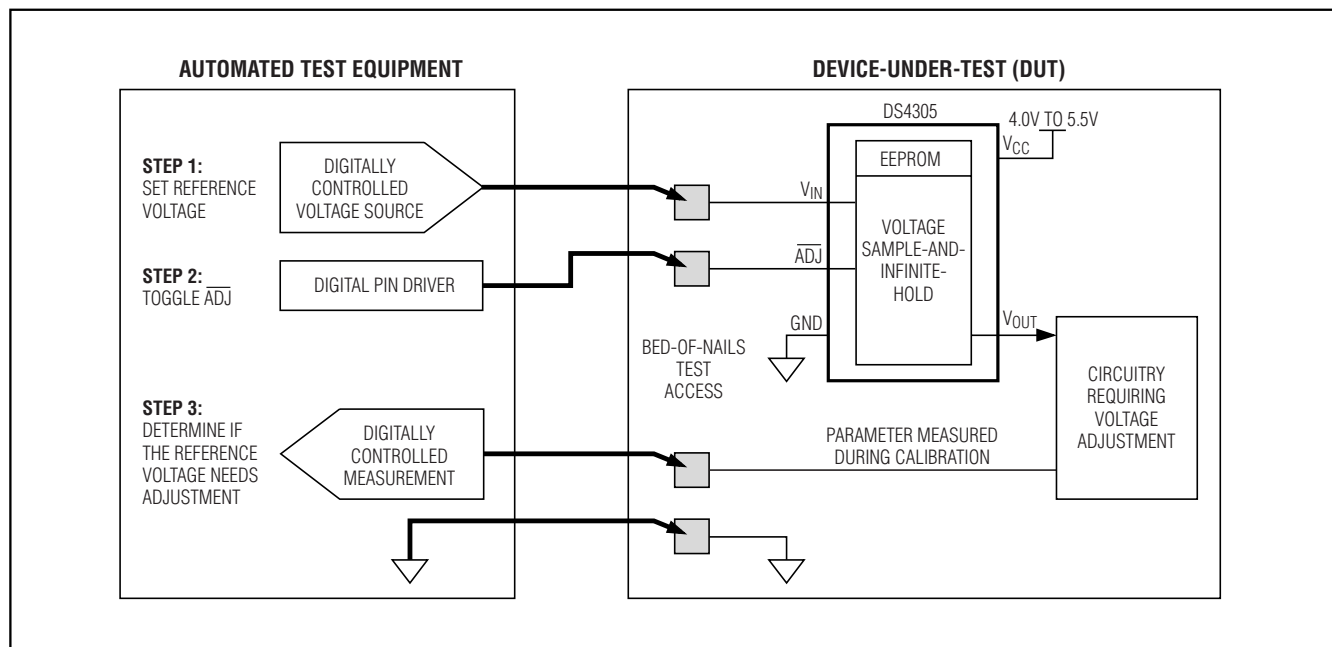

Figure 2. Application Circuit
Figure 2 details an example of how the DS4305 can be adjusted in an application. During factory alignment, a three/four-node bed-of-nails is used to: (1) provide the adjustment voltage through the  $V_{IN}$  pin, (2) control the  $\overline{ADJ}$  input, and (3) sense the needed feedback parameter. During manufacture, an automated test procedure adjusts  $V_{OUT}$ , by changing  $V_{IN}$ , until the feedback parameter is optimized. After the bed-of-nails operation is complete, both the  $V_{IN}$  and  $\overline{ADJ}$  inputs are left open